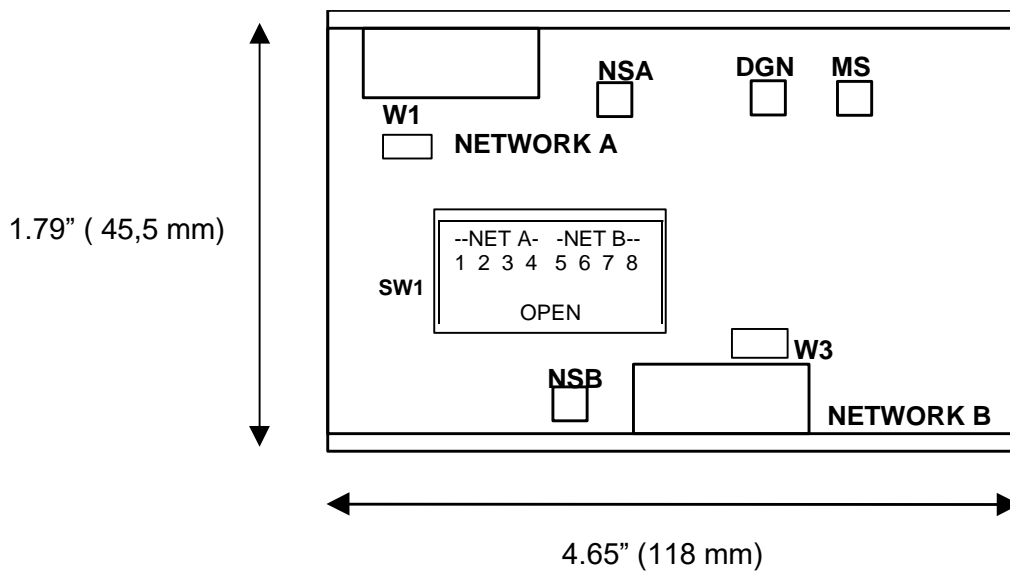

Figure 4-1 WRC-CANX-DIN Series IV Dimensional Drawing
The WRC-CANX-XX Multiplexer has four (4) LED's that provide visual status information to the user about the product and the DeviceNet network. See Figure 4-1, Table 4-2, Table 4-3 and Table 4-4.